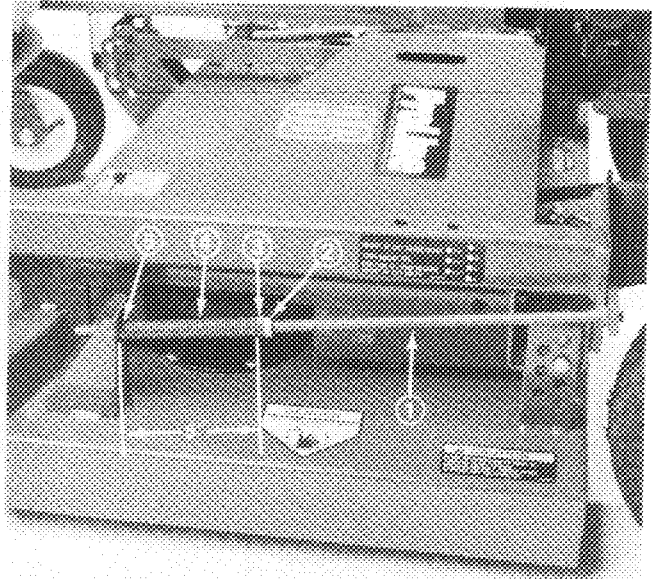

Figure 4
2. Thread (2) jam nuts onto each adjusting shaft (approximately 7 inches) (Fig. 4).
3. Slide a washer, spring and bushing onto each adjusting shaft. Bushing to be positioned so flange end is against spring (Fig. 4).
4. Insert spring end of each adjusting shaft into hole in deck mounting bracket and other end of shaft into hole in carrier frame mounting tab. Small end of bushing to fit into hole in deck bracket (Fig. 4).
5. To tension belt, tighten front jam nut on each adjusting shaft until springs are compressed to a length of 5", measured between washer and bushing (Fig. 4). Secure rear jam nuts.